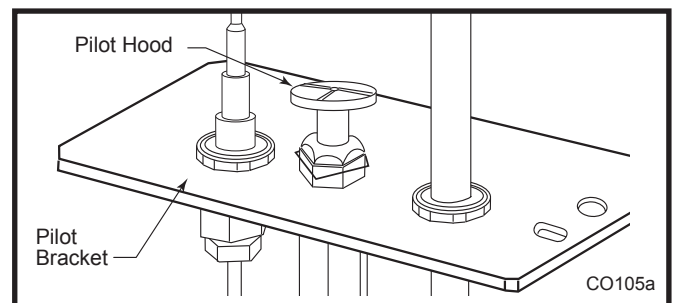

Fig. 61 Remove pilot hood.
- Remove pilot hood by lifting up. (Fig. 61) **NOTE:** It is not necessary to remove the pilot tube for conversion.